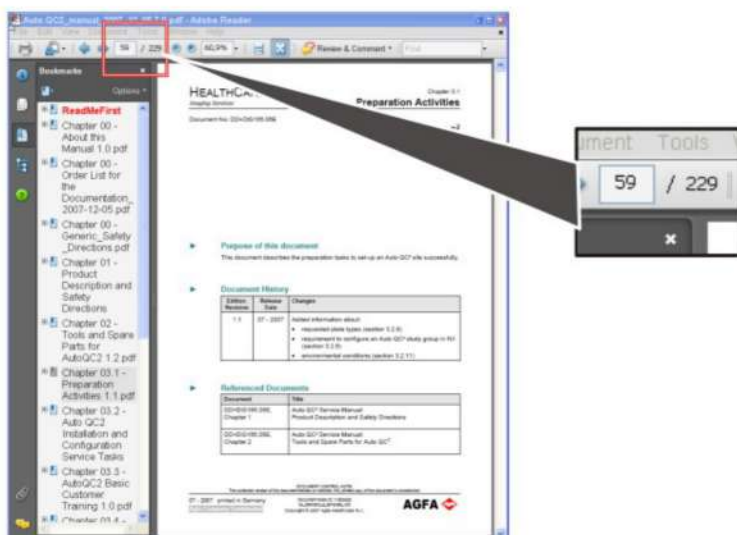

Figure 1: PDF page number in the Adobe reader toolbar
- (1) Click the bookmark of the desired chapter.
- (2) Write down or remember the shown PDF page number. See Figure 1.